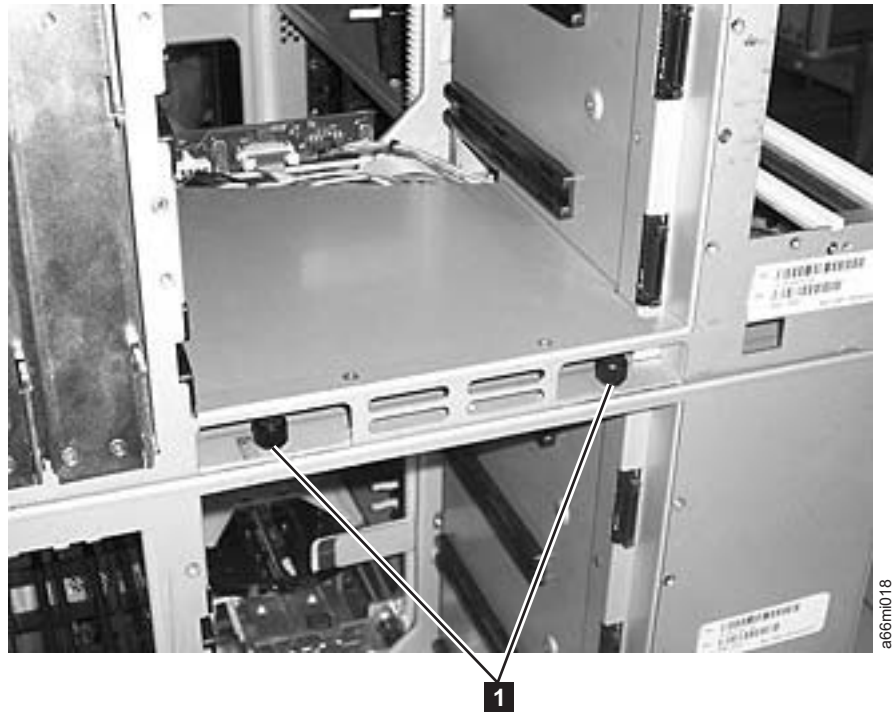

Figure 12-10. Control module rear thumb screws
10. Tighten the rear thumb screws (**1** in Figure 12-10) that secure the control module to the lower expansion module.